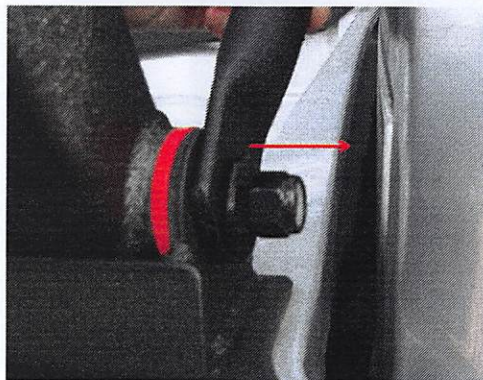

Figure 20: The red arrow shows what direction the headache fitting should be facing.
Step 24: To secure the riser a headache end fitting must be installed first. Slide the headache end onto the 1/2 -13x12 bolt with the end fitting angled toward the cab of the truck. Then place a 1/2" washer and 1/2" lock nut on the bolt. Make sure to not tighten the lock nut at this time. Figure 20 shows the proper way the headache end fitting has to be installed.